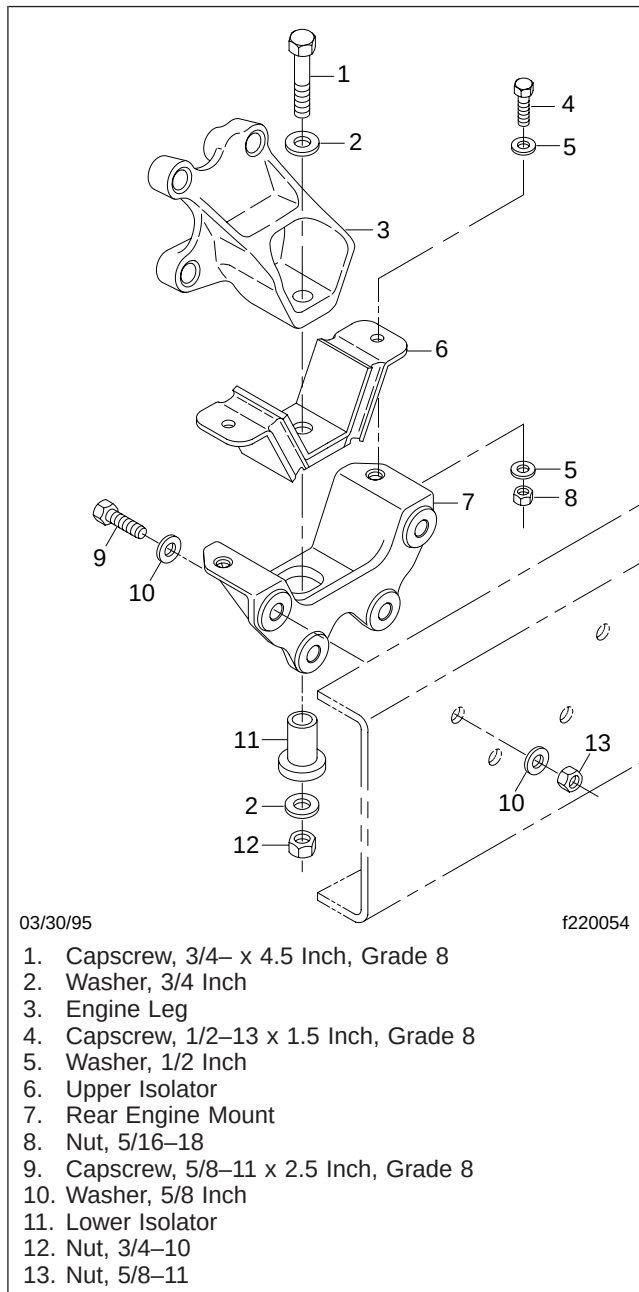

Fig. 6, Rear Engine Mount Assembly (pre-EPA07 engines)
Frame brackets and components secured with Huck-bolt® fasteners do not require a torque check, however, they should be inspected for damage. Frame brackets and components secured with conventional bolts and nuts are to be checked at initial maintenance (IM). See Fig. 6 for pre-EPA07 engine mounts. Check the torque of frame fasteners to offset the effects of "bedding in" (or seating). When possible, always check the torque of the nut, not the bolt head. This will give a true torque reading by eliminating bolt body friction. When checking the torque of frame fasteners, inspect the frame for cracks and other damage. Set a click-type torque wrench to the maximum torque of the fastener you are checking. Apply pressure until the torque wrench clicks. Do not loosen the bolt to check the torque. See the applicable torque table in Group 00 for torque specifications.